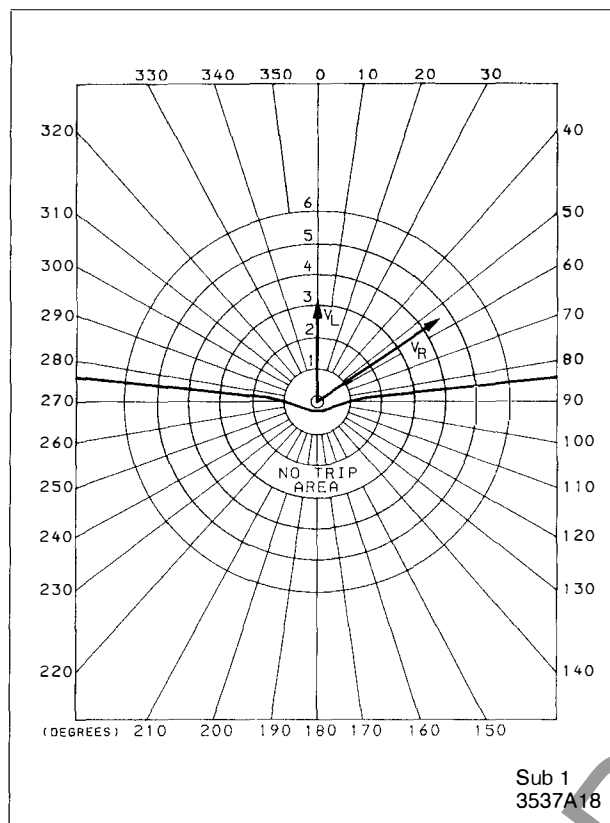

Figure 2. LCB General Operating Characteristics
The graph in Figure 2 shows the relay characteristic when the local (VL) is at three times pickup, and the remote varies in-phase and magnitude. A family of curves similar to this one could be drawn for different magnitudes of local voltage. It can be seen that the relay system will operate for small amount of out-feed at the remote terminal. This is the differential aspect of the LCB, and provides out-feed trip capability in weak terminal applications. As observed in the drawing the relay has about an 82° characteristic; that is, the two quantities can be up to 82° out-of-phase and the relay will trip for any set of magnitudes above pickup.